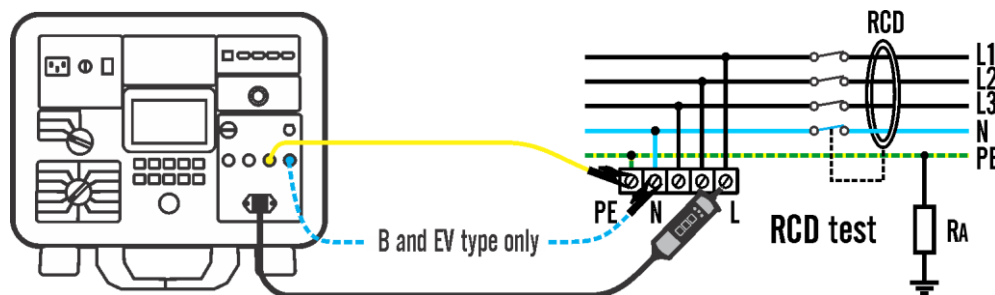

Figure 44: Connection for RCDt measurement, example
- 8) Connect test leads according to figure 44 on page 59, see also HELP/CONNECTION menu. Green mains icon will be displayed when the connection is properly done and input U_L/N and U_L/PE voltages are within 100 ... 253 VAC.
- 9) Connect test leads according to figure 44 on page 59, see also HELP/CONNECTION menu. Green mains icon will be displayed when the connection is properly done and input $U_{L/N}$ and $U_{L/PE}$ voltages are within 100 ... 253 VAC ($U_{L/N}$ is required for B and EV types only).